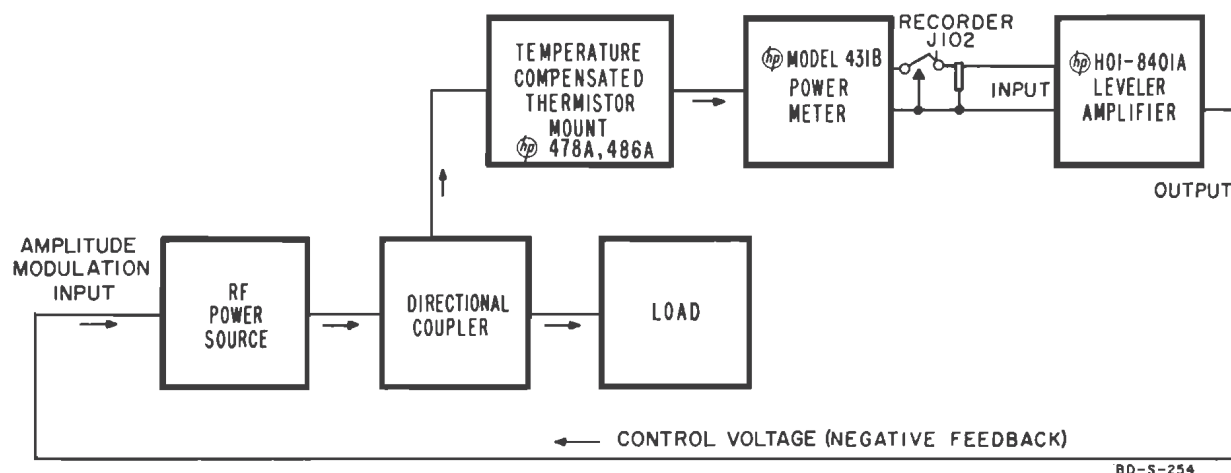

Figure 3-6. Leveler Setup
**3-28. LEVELER.** Figure 3-6 is a block diagram of a closed-loop control circuit for maintaining output power at a constant level. It is recommended for use in leveling the output of various types of microwave equipment such as two sweep oscillators, two microwave amplifiers, and rf generators. In addition to the